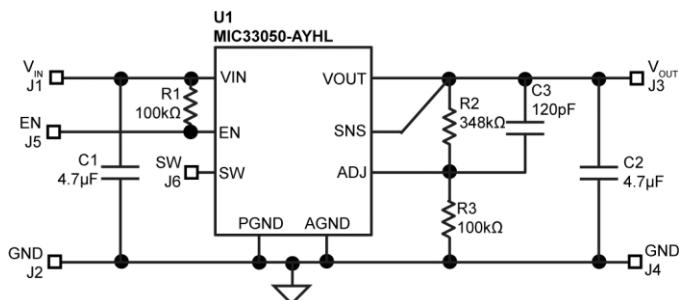

Figure 1. Typical Circuit for MIC33050-AYHL ( $V_{OUT} = 1.8V$ )
As shown in the previous equation, the load at which MIC33050 transitions from HyperLight Load mode to PWM mode is a function of the input voltage ( $V_{IN}$ ), output voltage ( $V_{OUT}$ ), duty cycle (D), inductance (L) and frequency (f). As shown in Figure 1, as the Output Current increases, the switching frequency also increases until the MIC33050 goes from HyperLight Load mode to PWM mode at approximately 120mA. The MIC33050 will switch at a relatively constant frequency around 4MHz once the output current is over 120mA.